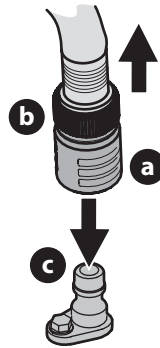

Fig. 31
3. Pull back the lock collar (a) of the nozzle adapter (b) and push the nozzle adapter onto the deck wash nozzle (c). Release the lock collar to lock the nozzle adapter on the deck wash nozzle (Fig. 31).